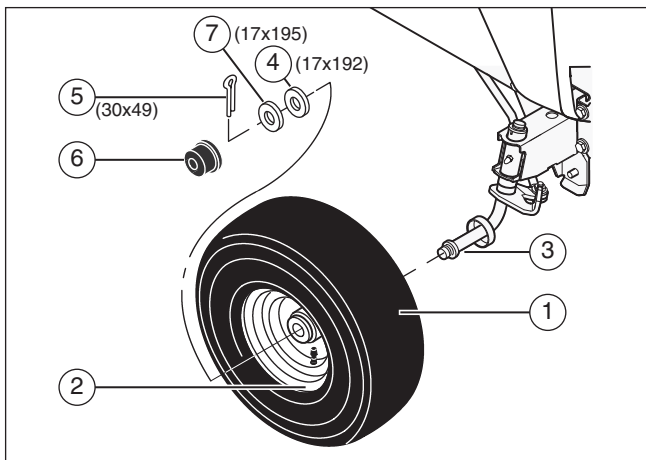

Figure 1
Use a knife and cut the four sides of the container. Install the front wheels (1) in the container (see **Figure 1**).